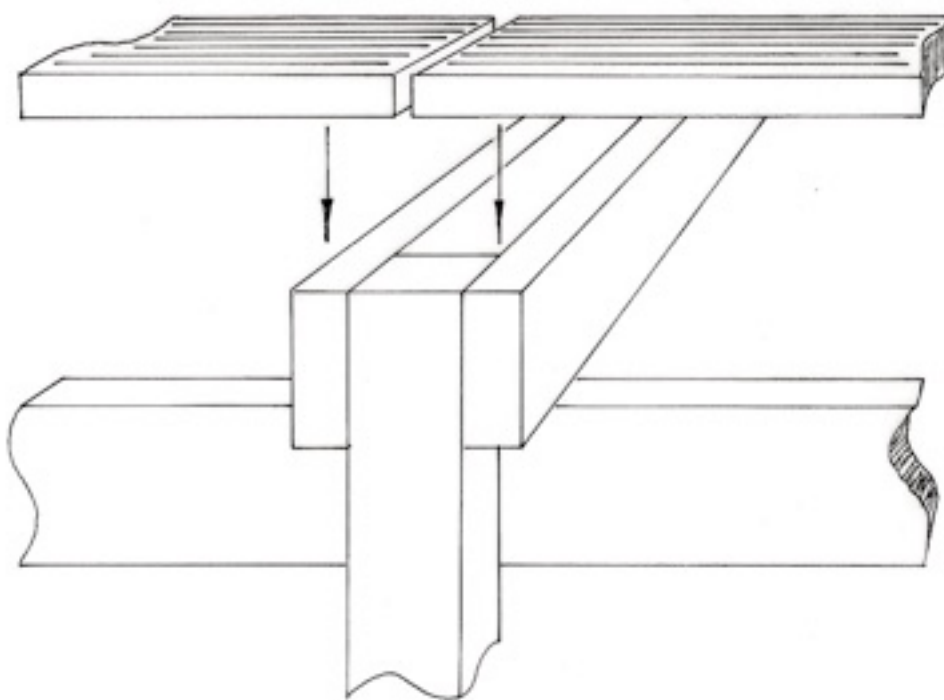

Fig 2
Where two deck planks need to be abutted (leave a 5mm gap for expansion) it is recommended that the beams be doubled up as shown in Fig 2.
2. Elevated deck construction (Figs 2 & 3).
It is recommended that beams be attached on both sides of the posts where it is likely that two decking boards will be abutted end to end (Fig 2).